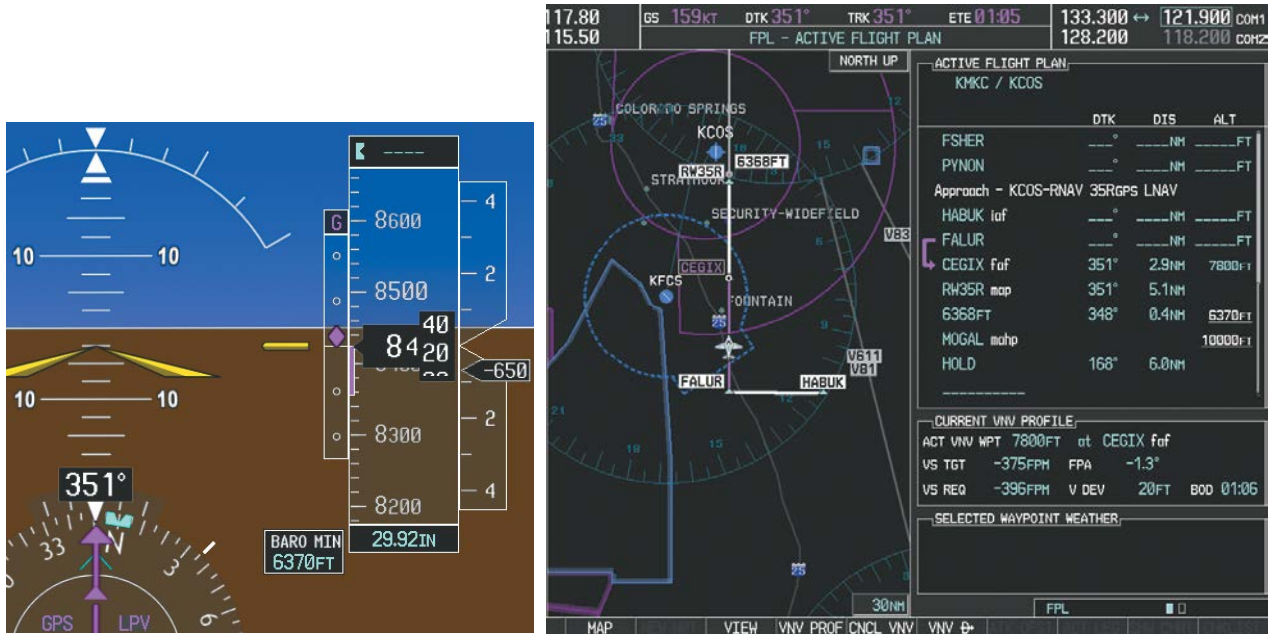

Figure 5-141 Descending to the FAF
- 23) After crossing FALUR the next waypoint is the FAF. The flight phase changes to LPV on the HSI indicating the current phase of flight is in Approach Mode and the approach service level is LPV. CDI scaling changes accordingly and is used much like a localizer when flying an ILS approach. The RVSI is no longer displayed and the VDI changes to the Glidepath Indicator (as shown in Figure 5-141) when the final approach course becomes active.
The descent continues through the FAF (CEGIX) using the Glidepath Indicator, as one would use a glideslope indicator, to obtain an altitude "AT" 7,800 feet at the FAF. Note the altitude restriction lines over and under (At) the altitude in the 'ALT' field in Figure 5-141.